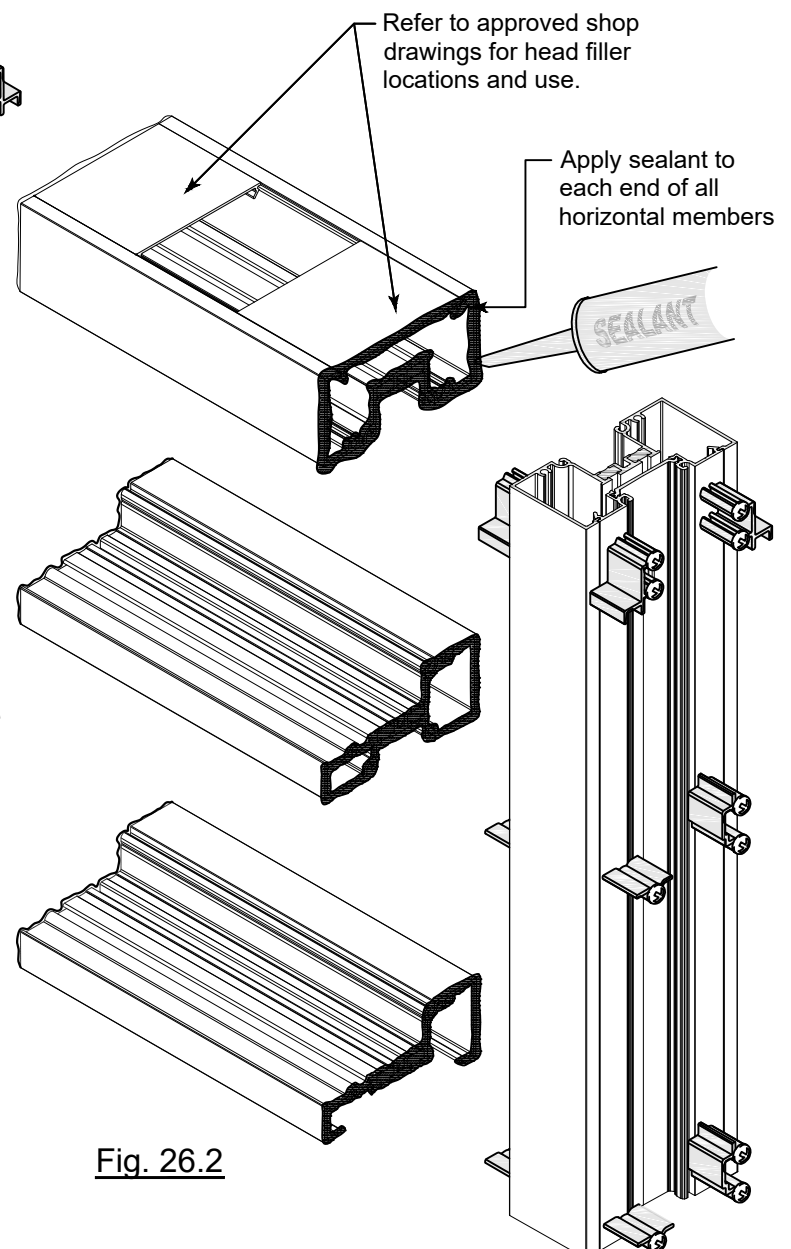

Fig. 26.2
- Apply sealant to ends of the head, horizontal and sill members and to perimeter of shear blocks prior to attaching the horizontal members to the vertical members. See Figure 26.2.